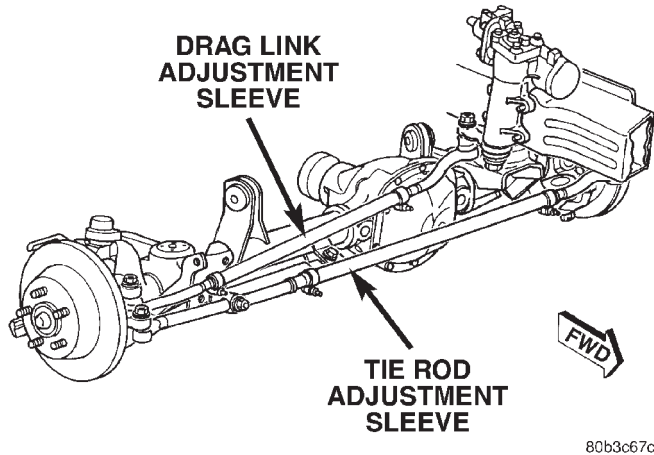

Fig. 2 Steering Linkage
- (1) Apply parking brakes.
- (2) Start the engine and turn wheels both ways before straightening the steering wheel. Center and secure the steering wheel.
- (3) Loosen the tie rod adjustment sleeve clamp bolts (Fig. 2).
- (4) Turn the sleeve to obtain the preferred positive TOE-IN specification. Position the clamp bolts as shown (Fig. 2) for proper clearance.
- (5) Tighten the clamp bolts to 68 N·m (50 ft. lbs.).
- (1) Loosen the drag link adjustment sleeve clamp bolts.
- (2) Turn the adjustment sleeve to center the wheel.
- (3) Position the clamp bolts as shown (Fig. 2) for proper clearance.
- (4) Tighten the clamp bolts to 68 N·m (50 ft. lbs.).
- (5) Road test the vehicle to verify the wheel is centered.